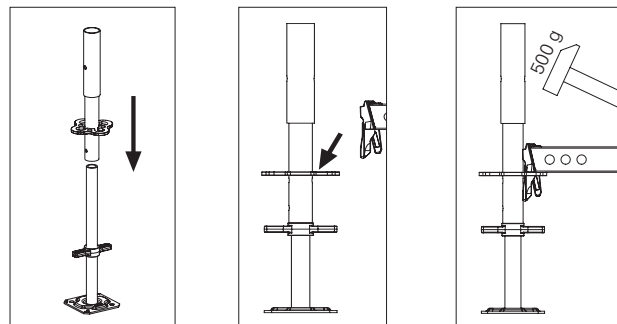

Fig. A3.02
3. Secure wedges on all ledgers using a 500 g hammer. (Fig. A3.02)